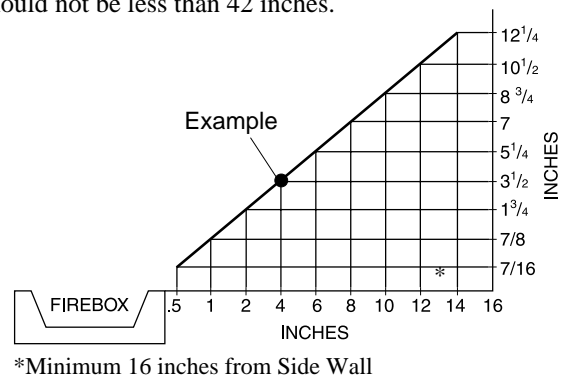

Figure 4 - Minimum Clearance for Combustible to Wall
- A. Clearances from the side of the fireplace cabinet to any combustible material and wall should follow diagram in Figure 4.
- Example:* The face of a mantel, bookshelf, etc. is made of combustible material and protrudes 3 1/2" from the wall. This combustible material must be 4" from the side of the fireplace cabinet (see Figure 4).